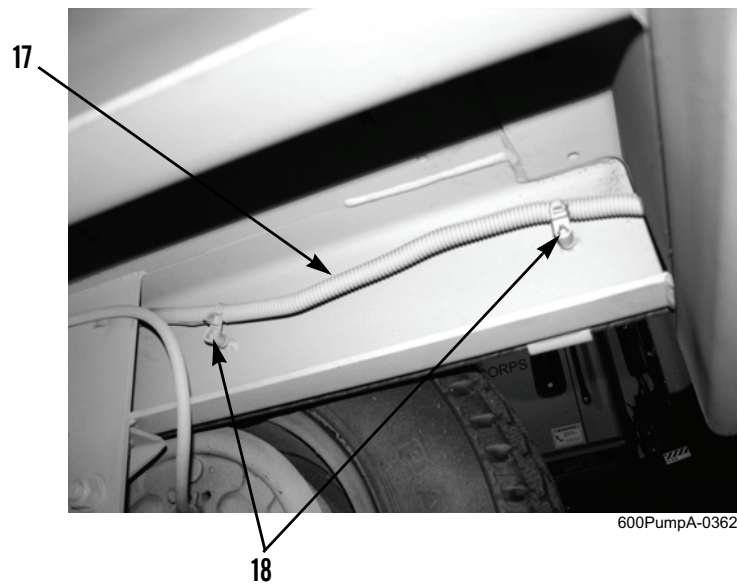

Figure 8. Wiring Harness Clamps.
10. Secure trailer wiring harness (Figure 8, Item 17) to trailer frame with five new clamps (Figure 8, Item 18).